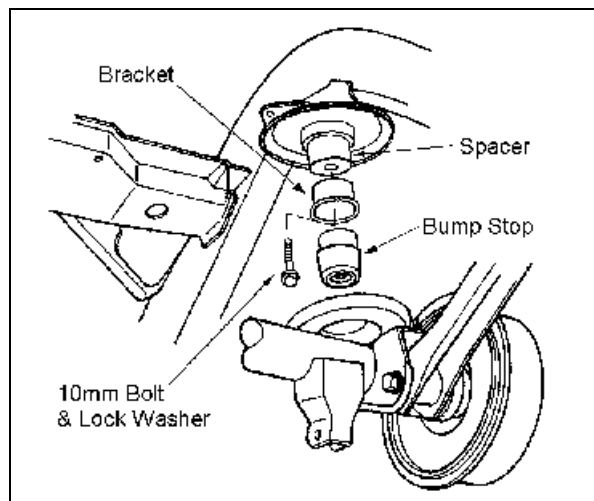

Figure 10
2. ≤ Insert a Rancho spacer from kit 8567 and reinstall the bracket with the 10mm hardware from kit 860073. See figure 10.